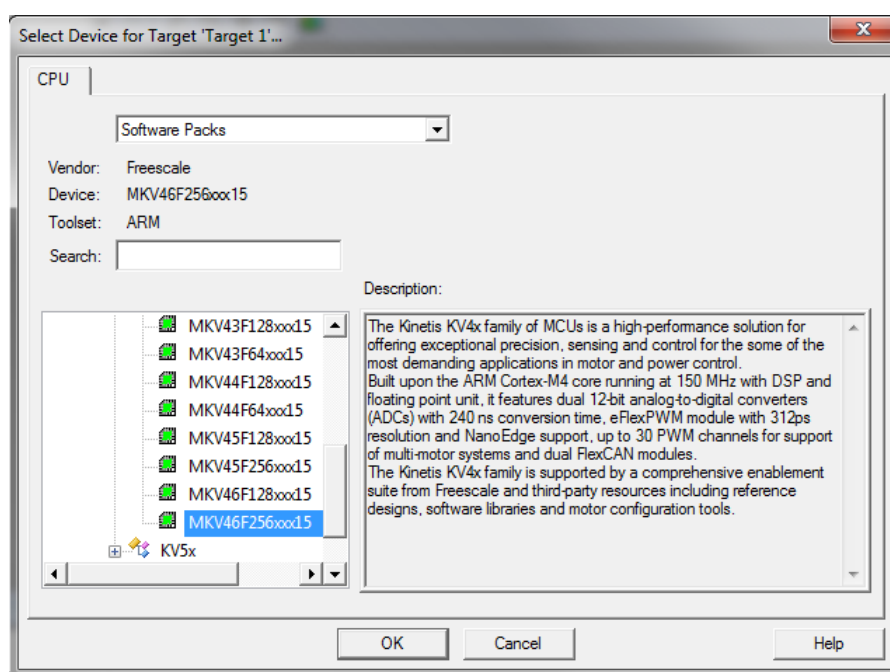

Figure 1-18. Select Device dialog
7. Click the MKV46F256xxx15 node, and then click OK. See Figure 1-18.